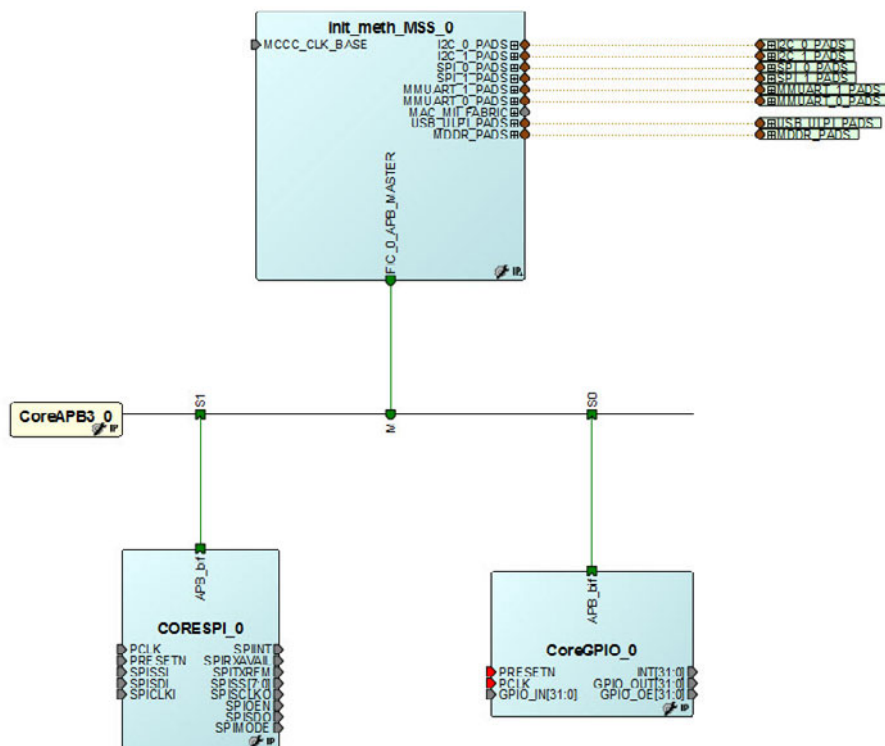

Figure 5-9 • FIC Master/APB3 Sub-System
- Connect the CoreAPB3 mirrored-master Bus Interface (BIF) port to the MSS master BIF port - FIC_0/1_APB_MASTER - as shown in Figure 5-9.